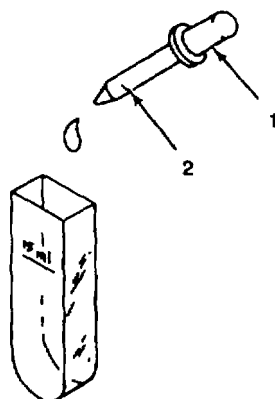

Figure 2-32. pH Test Cell
- (1) Place the pH color disc (1) in the comparator (2).
- (2) Rinse and fill two dean cells (3) with water sample to the mark (4).
- (3) Hold the comparator (2) with the eye piece facing you and place the two water-filled cells (3) into the openings at the top.
- (4) Fill the dropper (1, Figure 2-32) of the wide range indicator solution (white cap) bottle to the 0.50 mL mark (2).